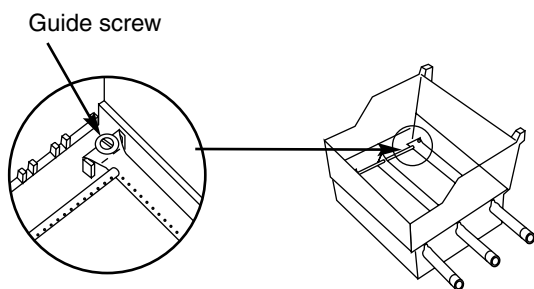

Figure 13
- g) Slide the burner assembly out from under the guide screw and washer in the corners of the cooking box. Figure 13.